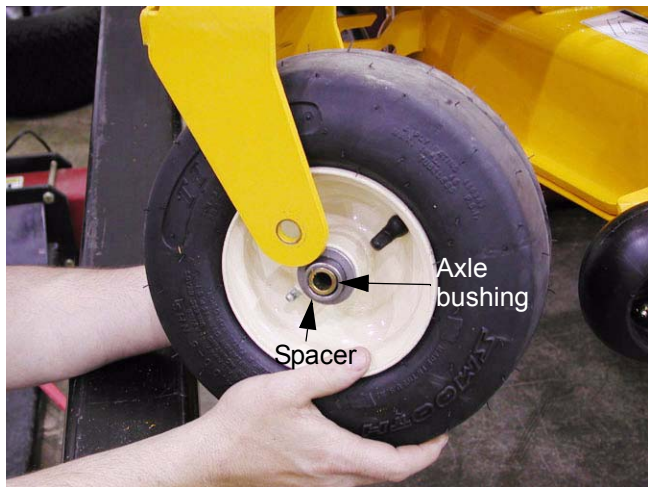

Figure 13.3
13.3. There is a spacer that fits over each side of the wheel bearing, keeping the wheel centered between the caster wheel mounting bracket. See Figure 13.3.